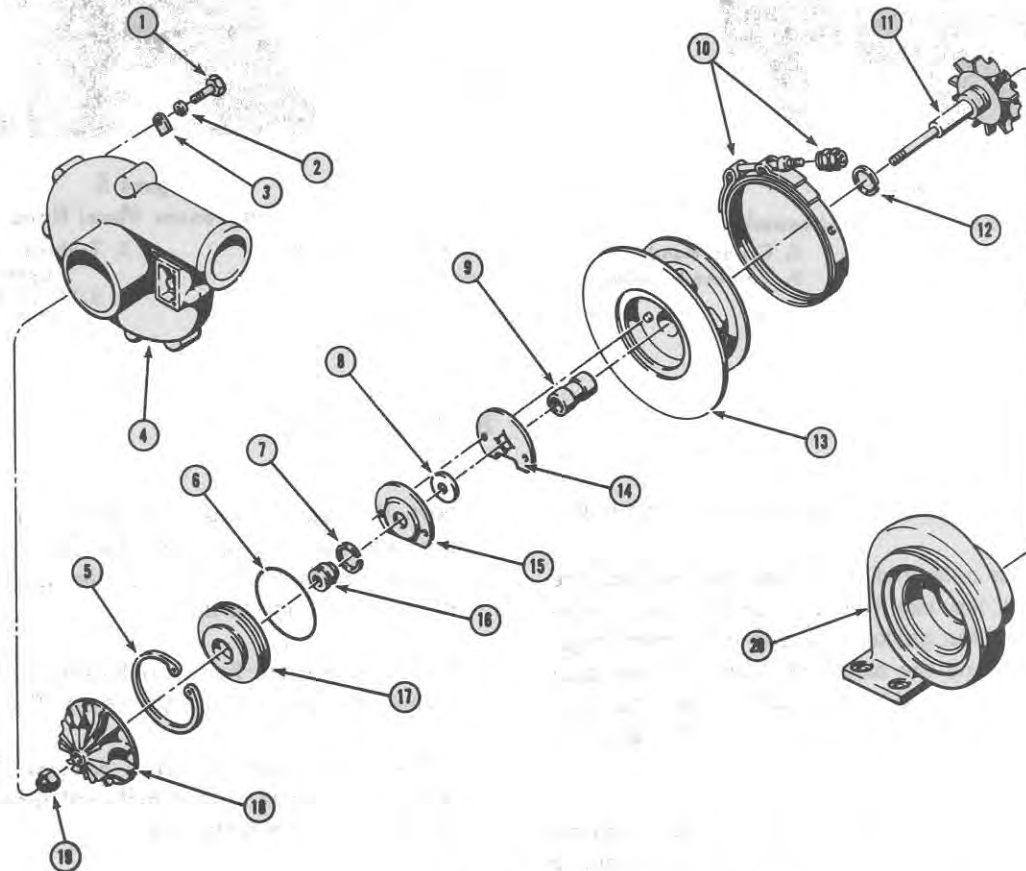

Figure 7
9. Remove the flinger sleeve, the oil deflector, the thrust ring, and the thrust bearing. Refer to Figure 7. Do not remove the two dowel pins from the bearing housing.
- Refer to the exploded view illustration, Figure 7, and to the following Turbocharger Diagnosis Guide during the inspection and repair of the turbocharger parts.
Refer to Figure 7 for parts identification during assembly.